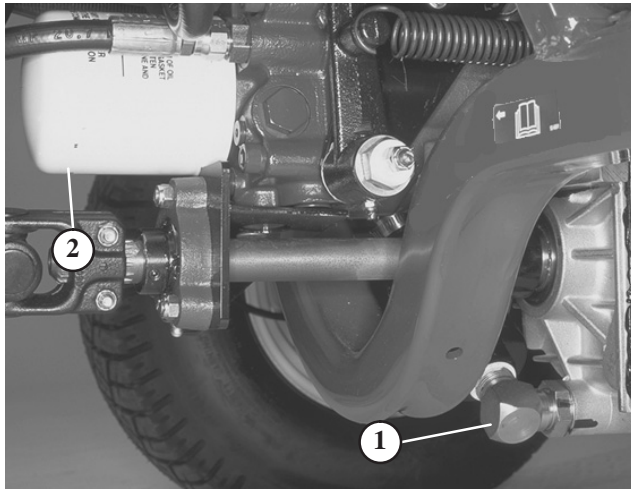

Figure 67
2. Clean area around suction line on bottom of transmission (Fig. 67). Place drain pan under line.
2. Clean area around filter mounting area (Fig. 67). Place drain pan under filter and remove filter.